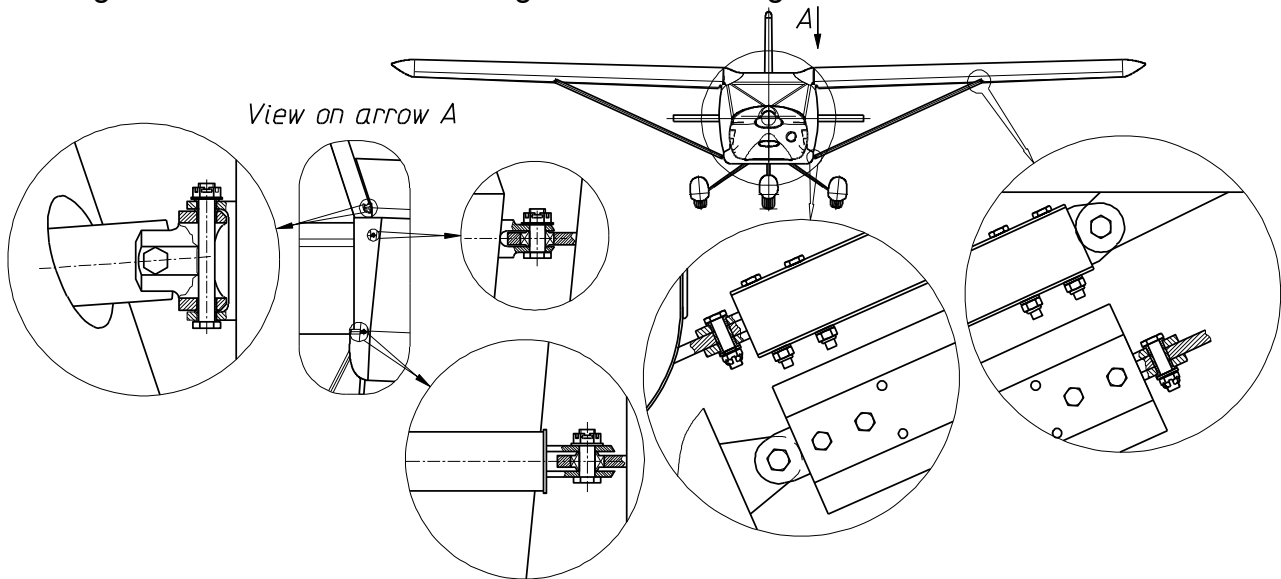

Fig. 18 Wing removal
Left and right wings shall be removed in turn (in any order) according to the following sequence (see **Fig. 18**):
4. Disconnect the full and static pressure lines at their joints (left wing, see **Fig. 18**).